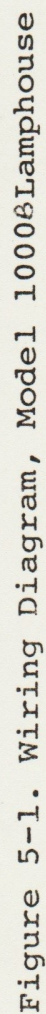

Figure 5-1. Wiring Diagram, Model 1000&Lamphouse
Whenever lamphouse fails to operate properly, consult wiring diagram, figure 5-1, Trouble Shooting Chart table 5-1, voltage chart table 5-2 and resistance test points table 5-3 as an aid in locating the possible trouble.
3.4 Shorted blocking diode (CR6).	3.4 Check voltage on both sides. See figure 5-1 and table 5-2.
Note: Refer to Schematic Diagram, Figure 5-1, for test points.
See schematic diagram, figure 5-1, for test points.